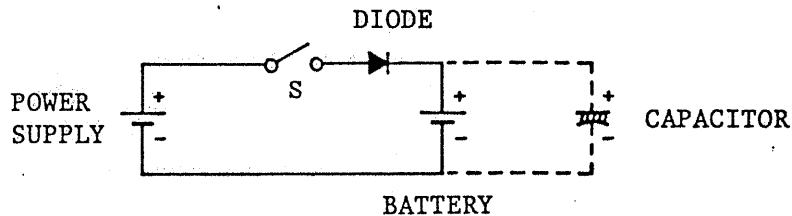

Figure 4-10
2. If the battery output voltage is lower than the battery voltage or if the power supply switch is off, a current of several hundreds milliamperes flows from the battery into the power supply. If this current is not allowable, connect a diode in series with the battery as shown in Figure 4-10.